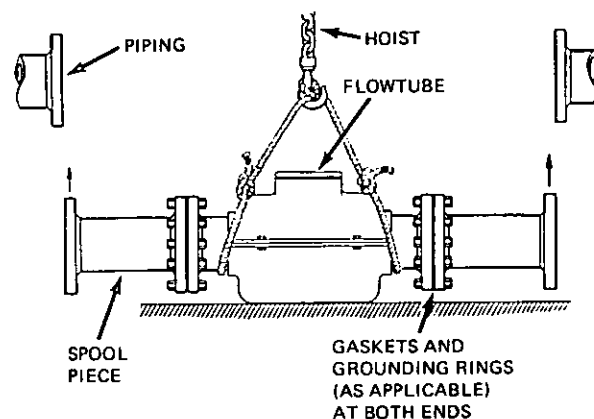

Figure 8
- a. Refer to Figure 8. Position gaskets and grounding rings (as applicable) adjacent to flowtube flanges. (For details of grounding rings, see "Flowtube Earthing (Grounding)" on Page 4.
- c. Hoist complete assembly into position as shown in Figure 8. Align flanges and bolt into place.